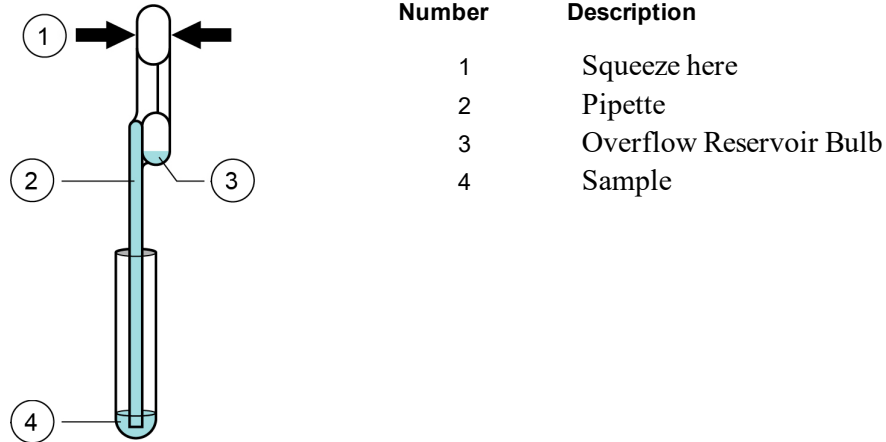

Figure 27. Transfer Pipette
14. Squeeze the top bulb of the transfer pipette completely until the bulb is fully flat. While continuing to hold the bulb fully flat, place the pipette tip in the specimen transport tube (see Figure 27).